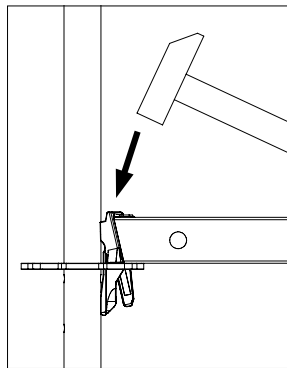

Fig. A7.01
1. Mount the next Ledger UH (5) between the standards of the first and second frame.
3. Securely fix all wedges which are attached to the second Standard UVR with a 500 g hammer. (Fig. A7.01)